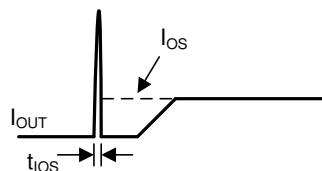

Figure 4. Output Short Circuit Parameters
2. The second condition is when a short circuit, partial short circuit, or transient overload occurs when the device is on and the internal NFET is fully enhanced. The device responds to the over-current condition by turning off the NFET within the time limit specified by $t_{I_{OS}}$ (see Figure 4). The current-sense amplifier is over-driven during this time and momentarily disables the internal N-channel MOSFET. The current-sense amplifier then recovers and ramps the output current to I_{OS} . Similar to the previous case, the TPS25221 limits the current to I_{OS} until the overload condition is removed or the device begins to thermal cycle.